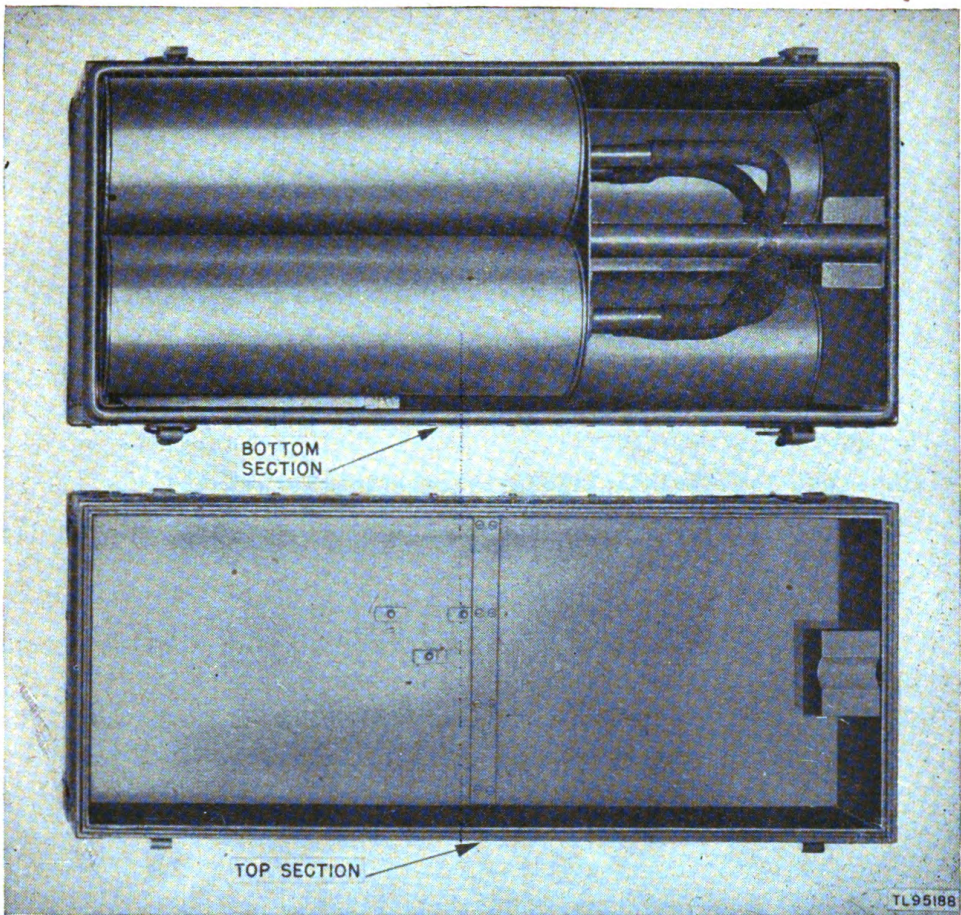

Figure 7. Case CY-219/TMQ-3, opened.
b. CASE CY-219/TMQ-3 (fig. 7). Case CY-219/TMQ-3 is designed to protect Hydrogen Generator Set AN/TMQ-3 against damage in transport. The case is constructed of  $\frac{1}{2}$ -inch plywood and is divided to hold the various components and running spare parts of the set. The case is composed of two sections clamped together by four trunk catches and is